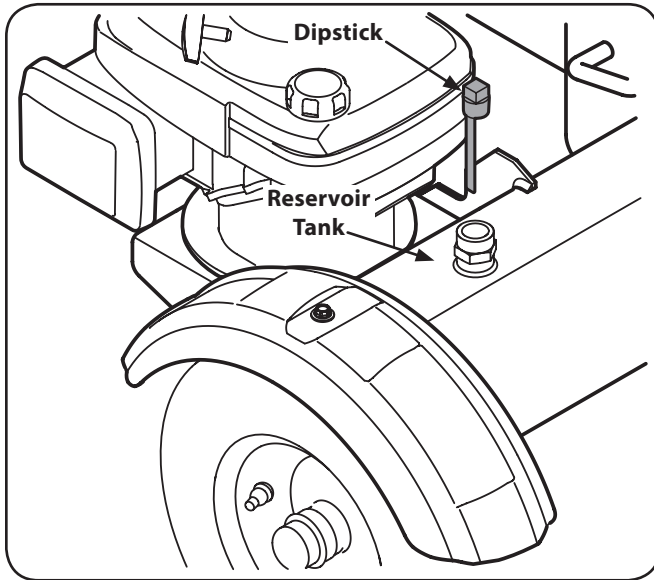

Figure 3-9
2. Remove the dipstick located in front of the engine and on top of the reservoir tank. See Figure 3-9.
3. Check the fluid level using the dipstick. See Figure 3-9. Do not overfill.